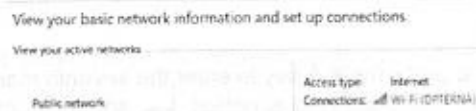

Figure 7.1.1
- (2) Connect the device network management interface to the network cable interface of the PC with the network cable. After the connection, the green indicator of the device network management interface is always on and yellow indicator is blinking; if the green indicator is not bright or the yellow indicator is not flashing, it indicates that the connection line between the device and PC is not plugged in.
- (3) After the device is connected to the PC, new network connection will be added to the "View Active Network" area, as shown in Figure 7.1.1, "Unrecognized Network". Left-click on the "Ethernet" on the right side of the "Unrecognized Network" area in the figure, and the "Ethernet Status" dialog appears. Click the Properties button and the "Ethernet Properties" dialog appears, as shown in Figure 7.1.2. Shown